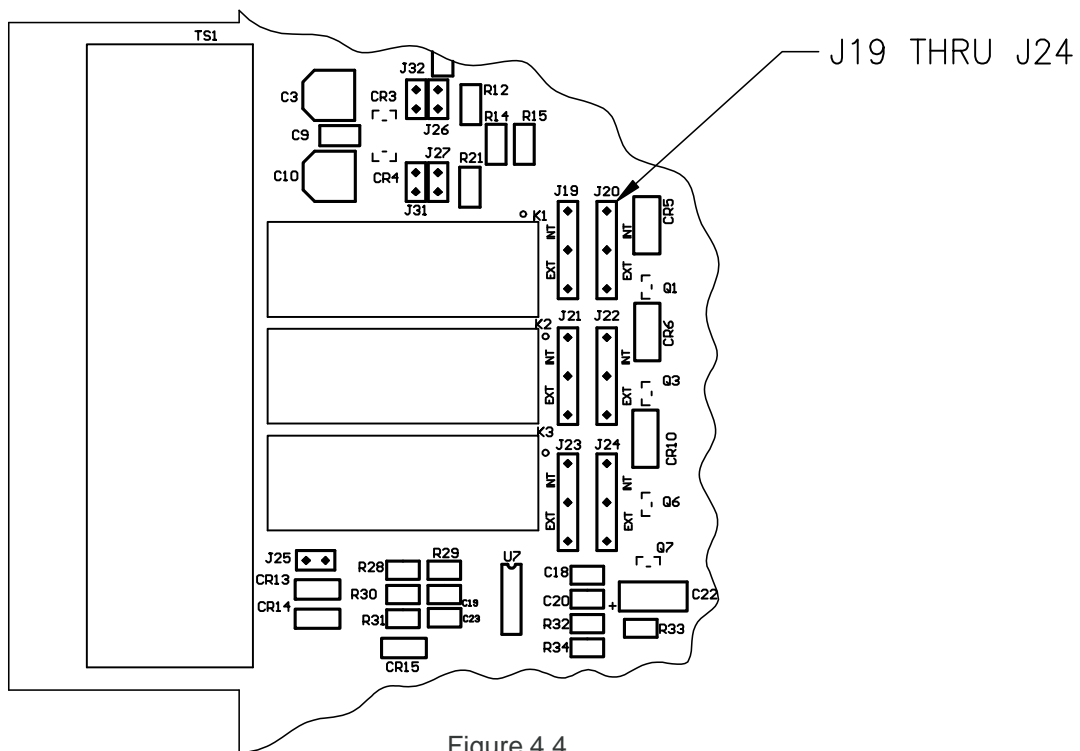

Figure 4.4
*Note: Contacts can be dry (un-powered) or internally powered with 24 V ac/dc through the selection of jumpers J19 & J20 (see Figure 4.4). Power (ac or dc) is the same provided at terminals 15 & 16.*
*Note: Contacts can be dry (un-powered) or internally powered with 24 V ac/dc through the selection of jumpers J21 & J22 (see Figure 4.4). Power (ac or dc) is the same provided at terminals 15 & 16.*
*Note: Contacts can be dry (un-powered) or internally powered with 24 VAC/DC through the selection of jumpers J23 & J24 (see Figure 4.4). Power (AC or DC) is the same provided at Terminals 15 & 16.*
Figure 4.4 depicts location of Jumpers J19 through J24, on the left side of the I/O board (CPU board will need to be removed to gain access).